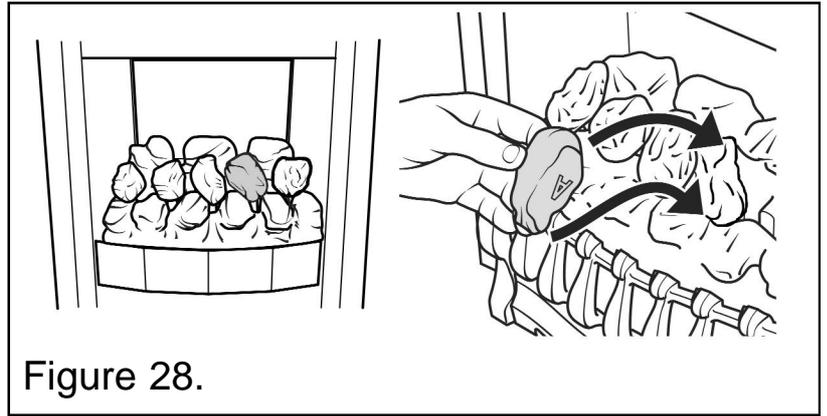

Figure 28.
7. Place the remaining type “A” coal between the front and rear base coals. The letter “A” should be upside down with its rear face between the right and centre coals of the rear base coal. Angle the coal so that the gap between it and the type “B” coal to its right is appreciably larger than the gap between it and the type “A” coal to its left but do not have it touching the type “A” coal. This will give the best flame effect. See figure 28.